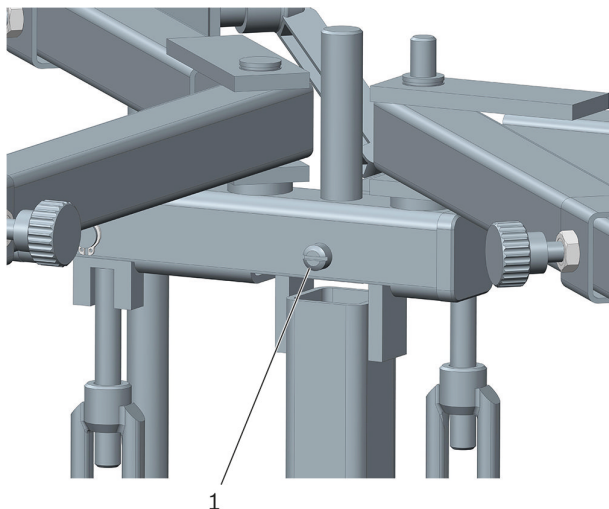

Figure 11: Position of shaft screw 1; shaft screw 2 is on opposite side (not visible)
- ▶ Ensure that the shaft screws (2 pieces) are connected in an orderly way in the swivel range of the gearbox support (see figure 11).